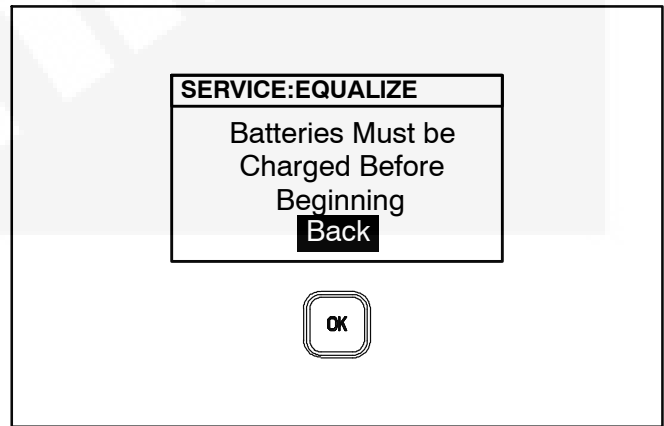

FIGURE A-22. NOT FULLY CHARGED SCREEN
**Note:** Shore power must be connected, the batteries must be fully charged and AUTO must be disabled. If the batteries are not fully charged the EQUALIZE screen will notify you that they must be full charged (Figure A-22).